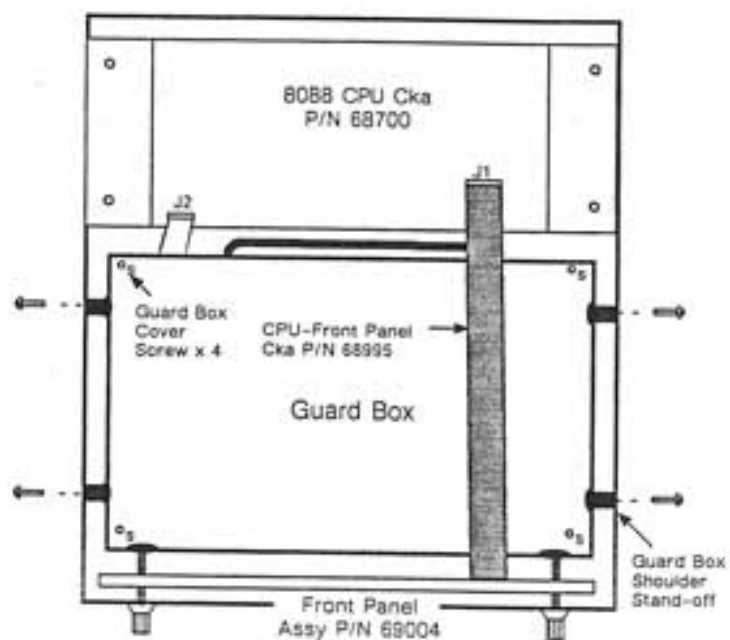

Figure 6-7. Model PRT73 with Top Cover Removed.
3. Disconnect the CPU-Front Panel Cbl (P/N 68995) from J1 on the CPU Cka (P/N 68700). Refer to Figure 6-7.
4. Remove the four Guard Box shoulder stand-off screws and Guard Box top cover (also four screws). Refer to Figure 6-7.
15. Secure the Guard Box shoulder connectors to the chassis (four screws) and replace the Guard Box top cover (four screws). Connect the CPU-Front Panel Cbl (P/N 68995) to J1 on the CPU Cka (P/N 68700). Refer to Figure 6-7.